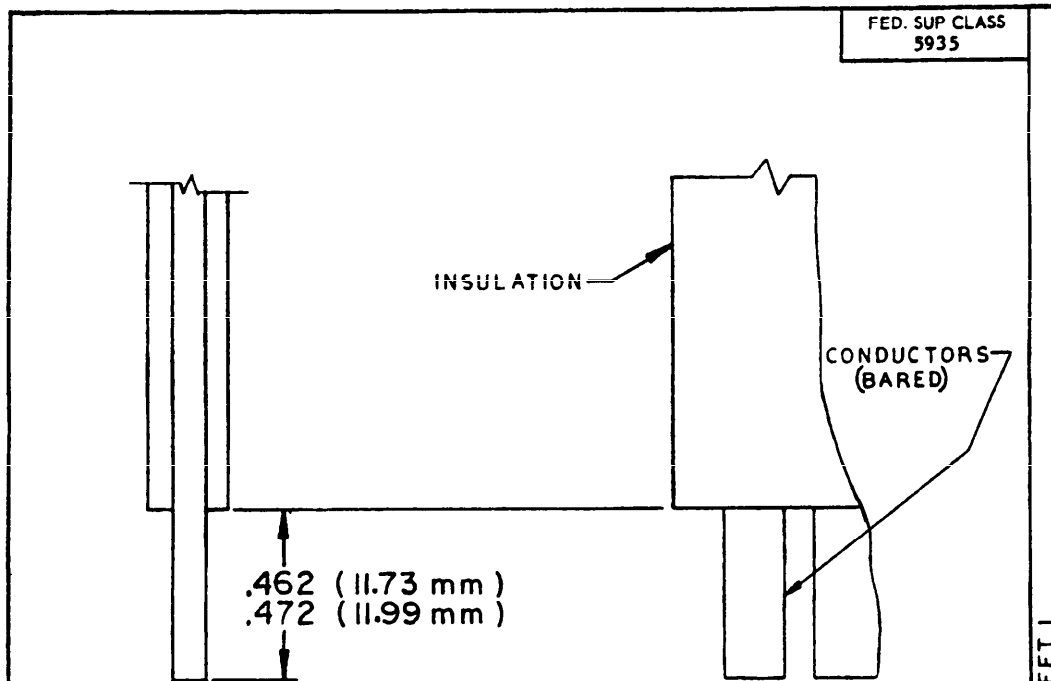

FIGURE 1. Cable stripping.
- A. Prepare the cable ends of the two flat conductor cables by removing the insulation as shown in Figure 1 (Cable Stripping)